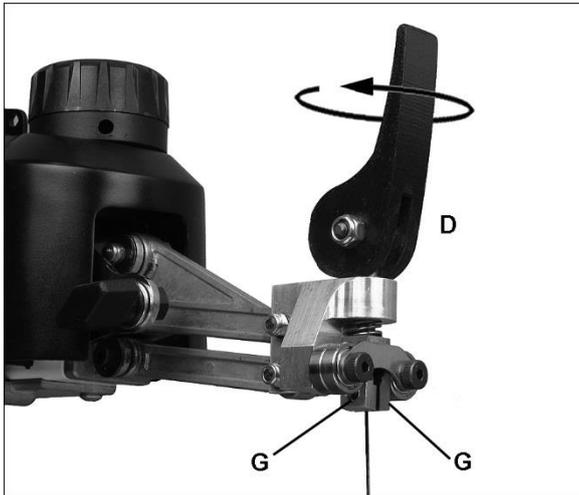

Fig 16
-Blade tension can be increased by rotating handle (D, Fig 16) clockwise by one turn.
-Turn set screws (G) with 3mm hex wrench clockwise to reduce gap between clamping surfaces.
First check that the set screws (G, Fig 16) protrude evenly into the clamping area. Adjust if needed.